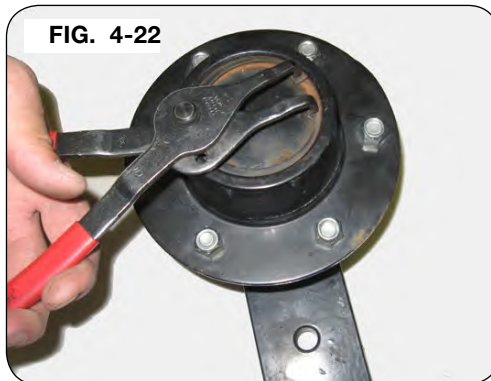

FIG. 4-22
3. Remove the retaining ring and hub cap. Refer to FIG. 4-22.